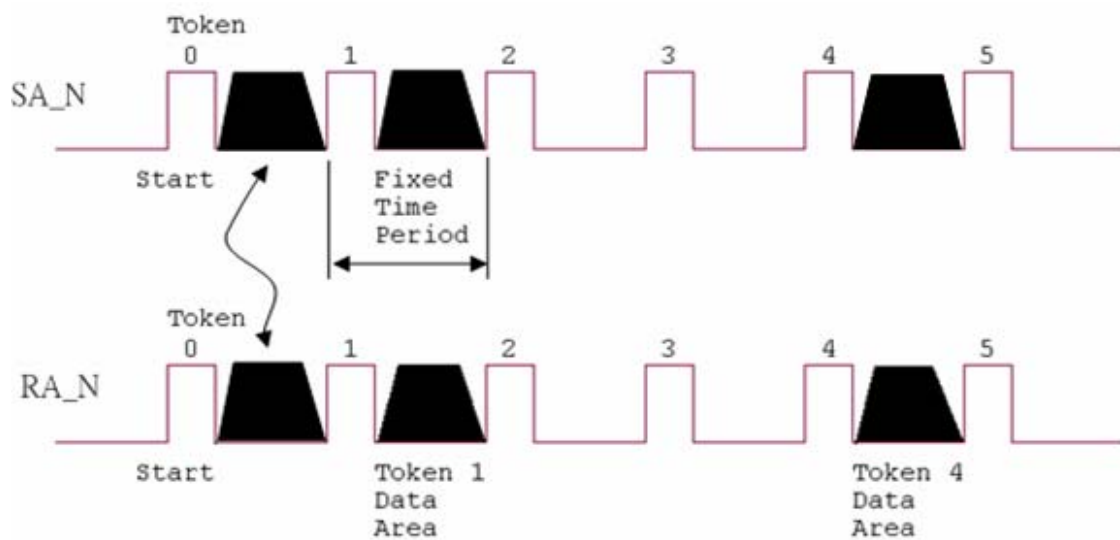

Figure 1.1 Token stream controlled by network manger, SA0
- The Token stream is produced cyclically by the hardware system (SA0) at the fixed time interval, see Figure 1.1. Therefore, the FRnet system can provide both the isochronous and deterministic functionalities.